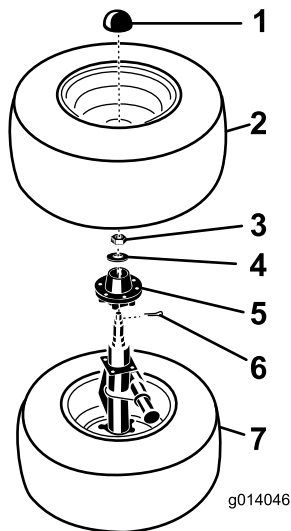

Figure 3
6. Flip the tire and axle assemblies on end with inner tire up. Remove the inner tire from each assembly (Figure 3).
7. Remove the dust cap, cotter pin, bearing tension nut and washer (Figure 3).
8. Lastly, remove the hub assembly (Figure 3). The spindle and a fastening plate will be left.
Note: If mounting the 2–4 Wheel Brake Kit at this time, flip the entire assembly (Figure 3) and install the remaining brake and drum assemblies the same way. Make sure to use the correct brake assembly